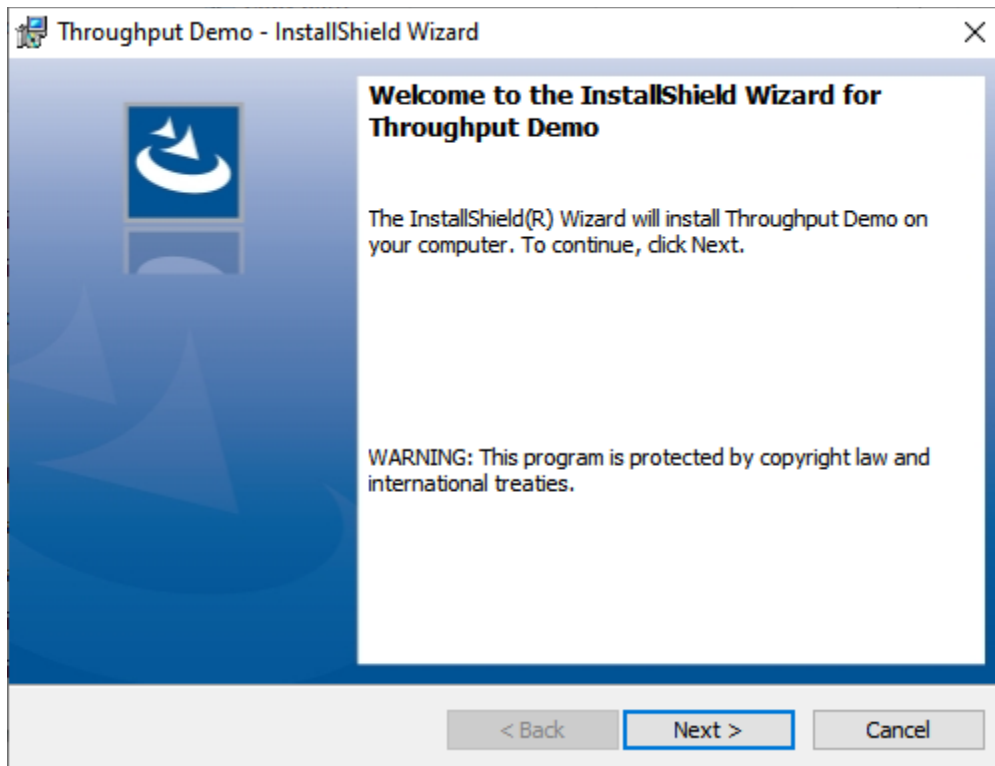

Figure 3.23. Welcome Page
2. The Welcome page appears (Figure 3.23). Click **Next**.